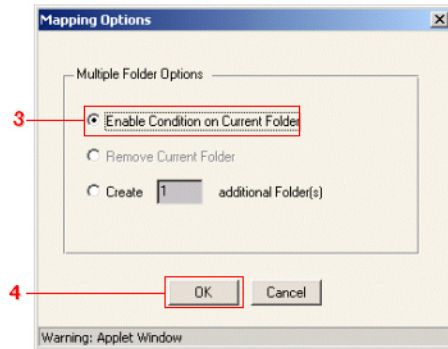

Figure 20-2. Choose the **Enable Condition on Current Folder** radio button in the Mapping Options dialog.
- ③ Select the **Enable Conditions on current Folder** radio button (see Figure 20-2 below).
- ④ Click **OK** to dismiss the dialog.